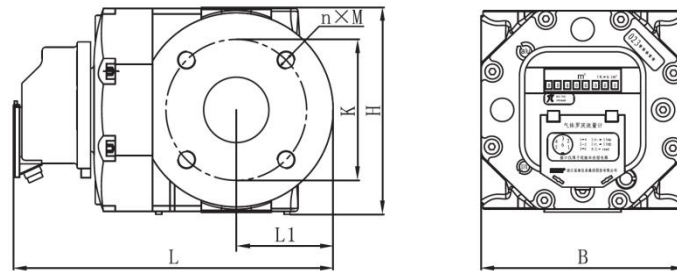

Figure5 Outline structure
5.1 The outline structure of the meter is shown in Figure 5,